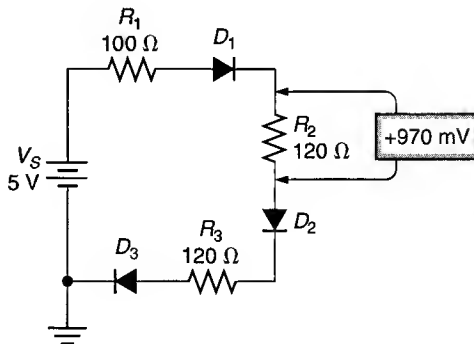

FIGURE 2.47
18. Ignoring the presence of the meter, calculate the value of V_{R2} for the circuit shown in Figure 2.47. Then, determine the percentage of error between your calculated value and the meter reading shown.